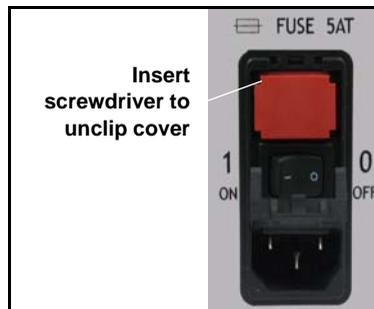

Figure 5-8. Opening the Fuse Compartment
3. Use a thin blade screwdriver to unclip the cover of the fuse compartment (see Figure 5-8).